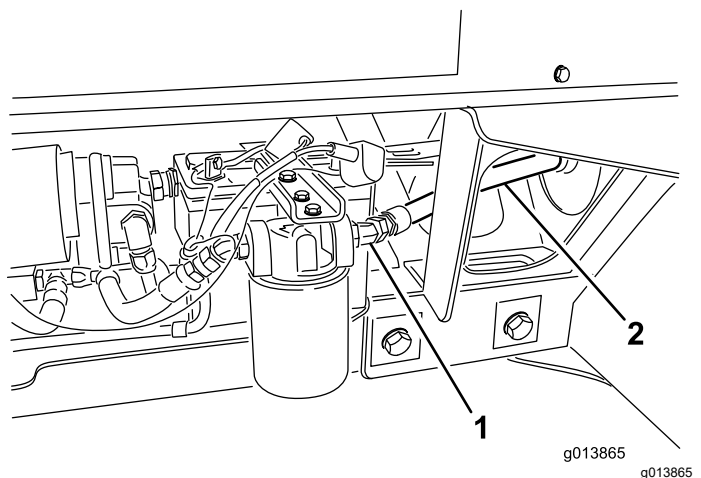

Figure 11
8. Connect hydraulic hose #3 to the filter outlet (Figure 11).